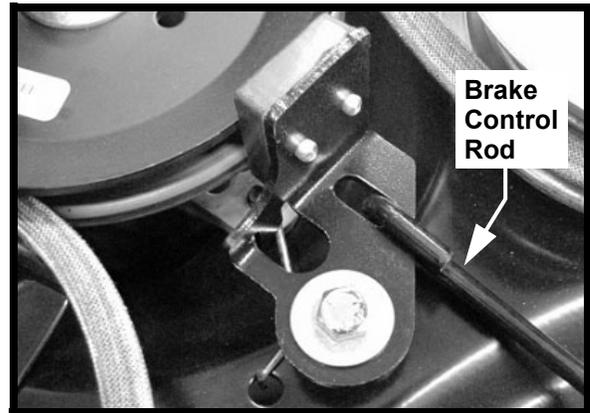

FIGURE 9
21. Connect the brake control rod to the deck brake assembly. See Figure 9 for orientation.